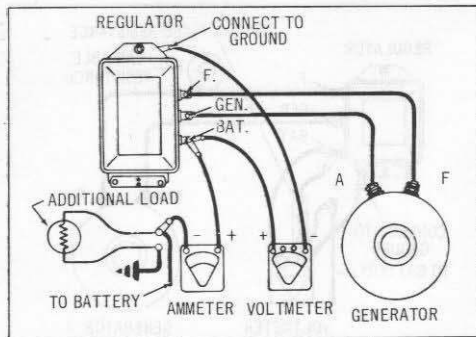

Figure 5I-4.
4. Operate engine at 2000 RPM (approximately 40 MPH) and note reading on ammeter. If reading is not within regulator specifications (See Fig. 5I-1) replace regulator or adjust according to manufacturer's Service Bulletin.